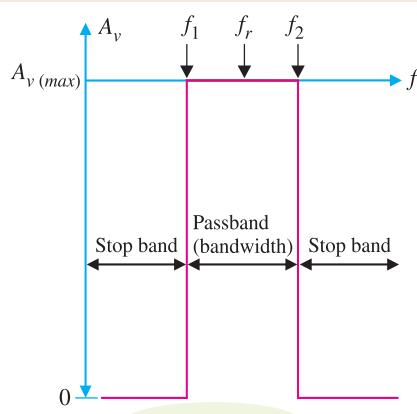

Fig. 15.8
**Solution.** Fig. 15.8 shows the frequency response of an ideal tuned amplifier. The ideal tuned amplifier has zero gain for all frequencies from 0 Hz up to the lower cut-off frequency  $f_1$ . At this point, the gain *instantly* jumps to the maximum value [ $A_{v(max)}$ ]. The gain stays at the maximum value until  $f_2$  is reached. At this time, the gain *instantly* drops back to zero. Thus all the frequencies within the bandwidth ( $f_1$  to  $f_2$ ) of the amplifier would be *passed* by the circuit while all others would be effectively stopped. This is where the terms *pass band* and *stop band* come from. The pass band is the range of frequencies that is passed (amplified) by a tuned amplifier. On the other hand, the stop band is the range of frequencies that is outside the amplifier's pass band.